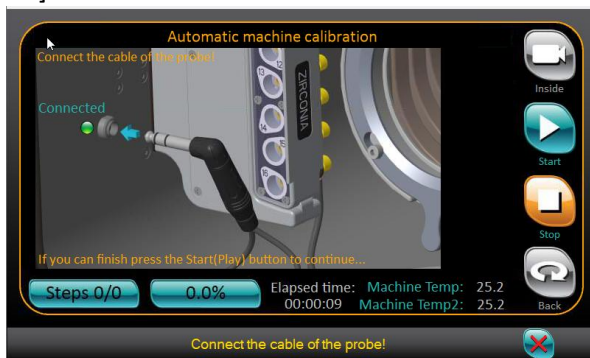

Figure 34 Probe cable
10. Remove the dummy from the **service connector** (See **Section 3.6 [Figure 3/8]**), and connect the ProbeTool plug **[Figure 34]**. Press **Start** to continue.